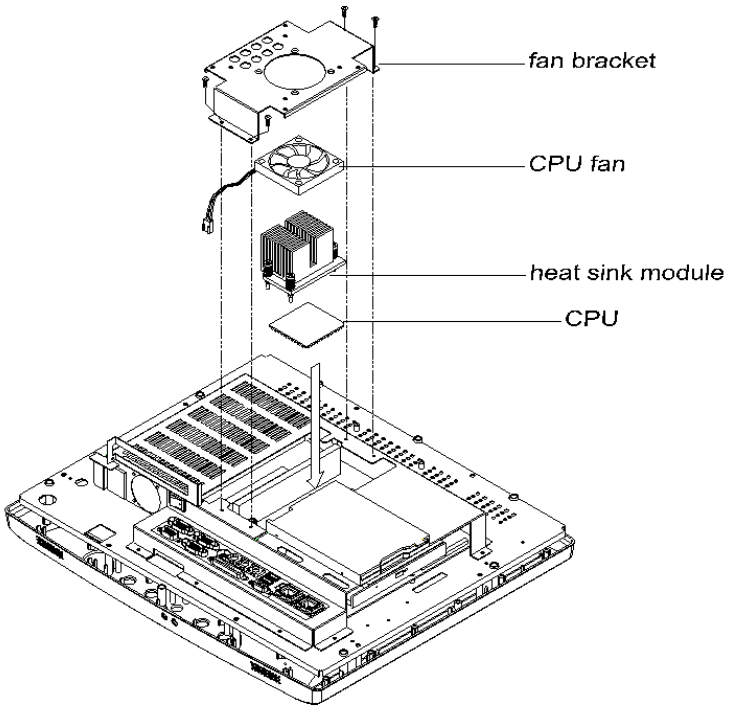

Figure C.6: Installing the Central Processing Unit
11. Place the heat sink on top of the CPU and fasten it with the heat sink clip (shown in Figure. C.6).